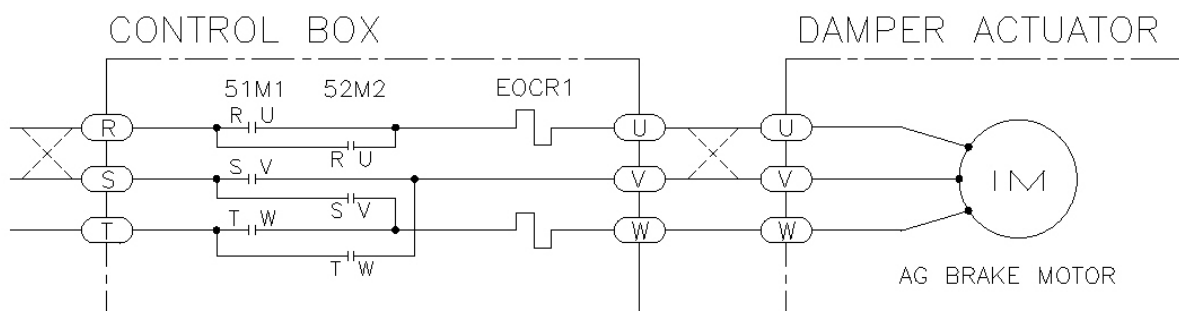

Fig.9 : Rotation direction
(2) Confirmation on rotation direction.
As described in above (1)'s confirmation of interconnection , if rotation direction is reverse status as "c" article, please change U.V interconnection among the control box's outlet terminal U.V.W as described fig.9, or R.S terminal among power R.S.T must be changed into dotted line